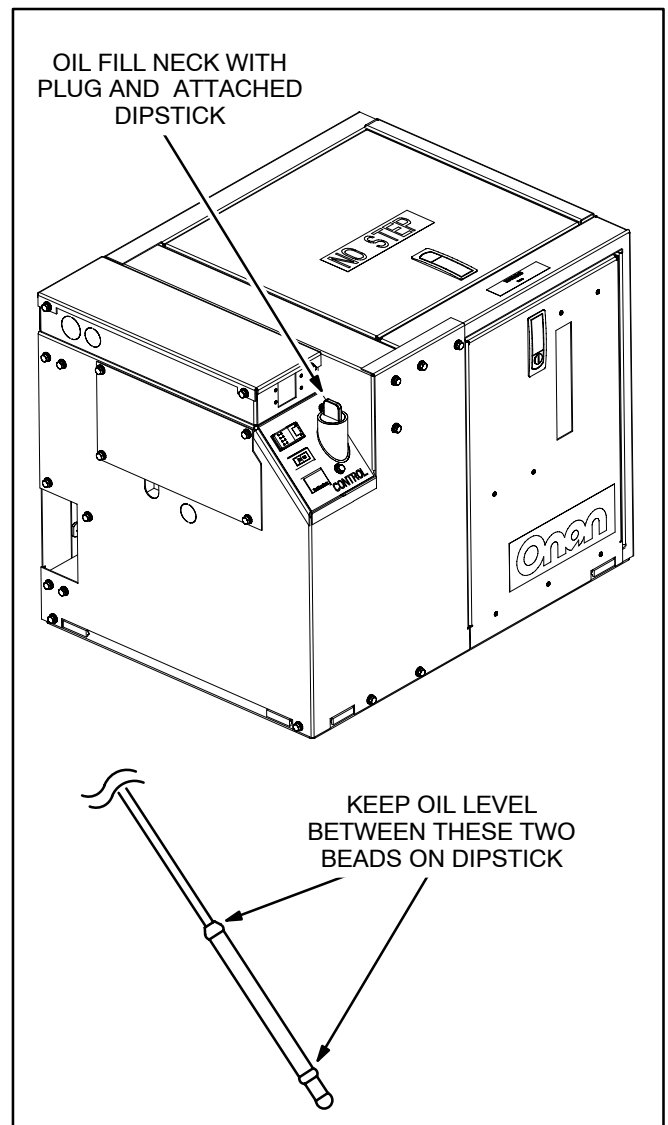
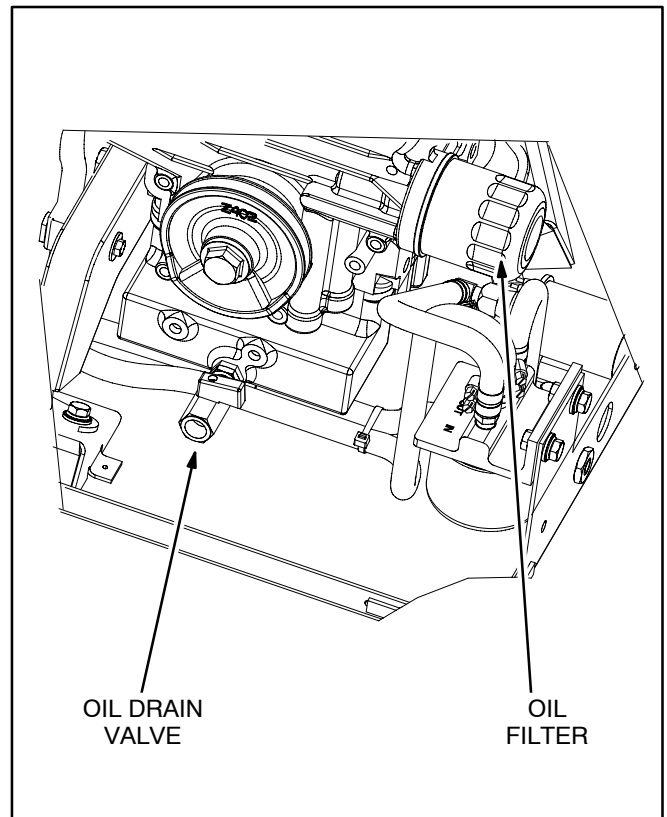

FIGURE 4-1. OIL FILL NECK AND DIPSTICK
FIGURE 4-2. OIL FILTER AND DRAIN VALVE
1. Pull the plug and dipstick out of the oil fill neck (Figure 4-1). The plug may be difficult to pull straight out. It is easier if you tilt the plug in its socket while pulling out. Wipe off the dipstick and thread it back into the fill neck and seat the plug, which snaps into its socket. Remove the plug and dipstick again and check the oil level on the dip stick.
2. Remove the oil fill plug (Figure 4-1), open the front access door and drain the engine oil into a container by opening the drain valve (Figure 4-2). (The drain valve has a 3/8 NPT outlet for connecting a hose fitting to facilitate oil draining.) If an oil pump-out system is installed, follow the instructions provided.